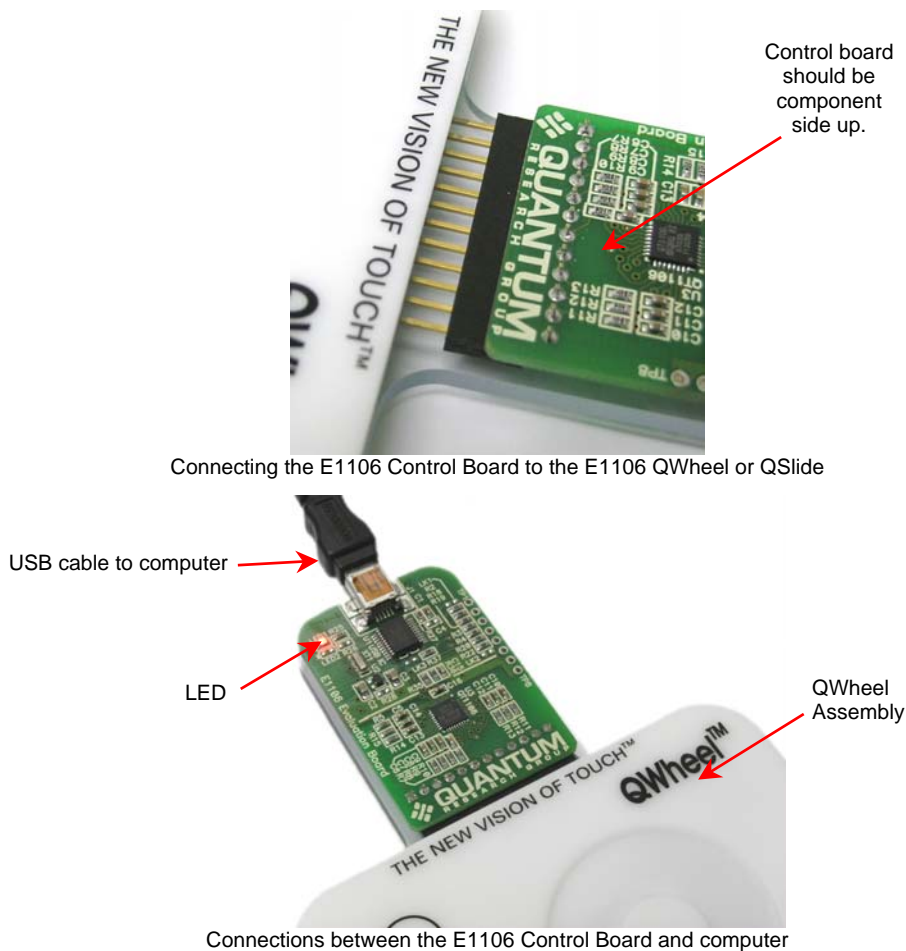

Figure 2: E1106 Connections
1. Connect the E1106 control board to the QWheel or QSlide evaluation assembly, ensuring correct orientation of the connector (see *Figure 2*).
2. Using the USB cable provided, connect the E1106 control board to the computer (see *Figure 2*). The LED on the E1106 is lit constantly to indicate that there is power to the board.